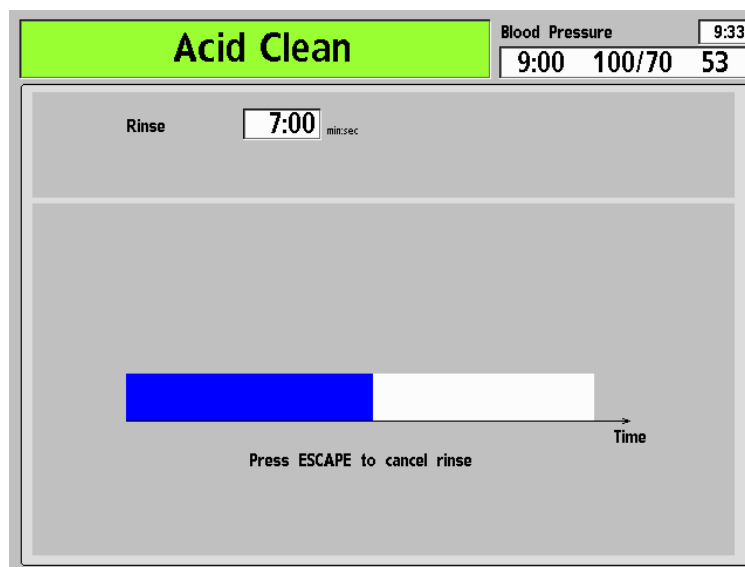

Figure 59 – The Acid Clean Screen
6. Press **CONFIRM** to start the Acid Clean program. The “Acid Clean” screen appears in the display (see Figure 59 – The Acid Clean Screen). The progress of the acid cleaning is indicated by the horizontal bar.